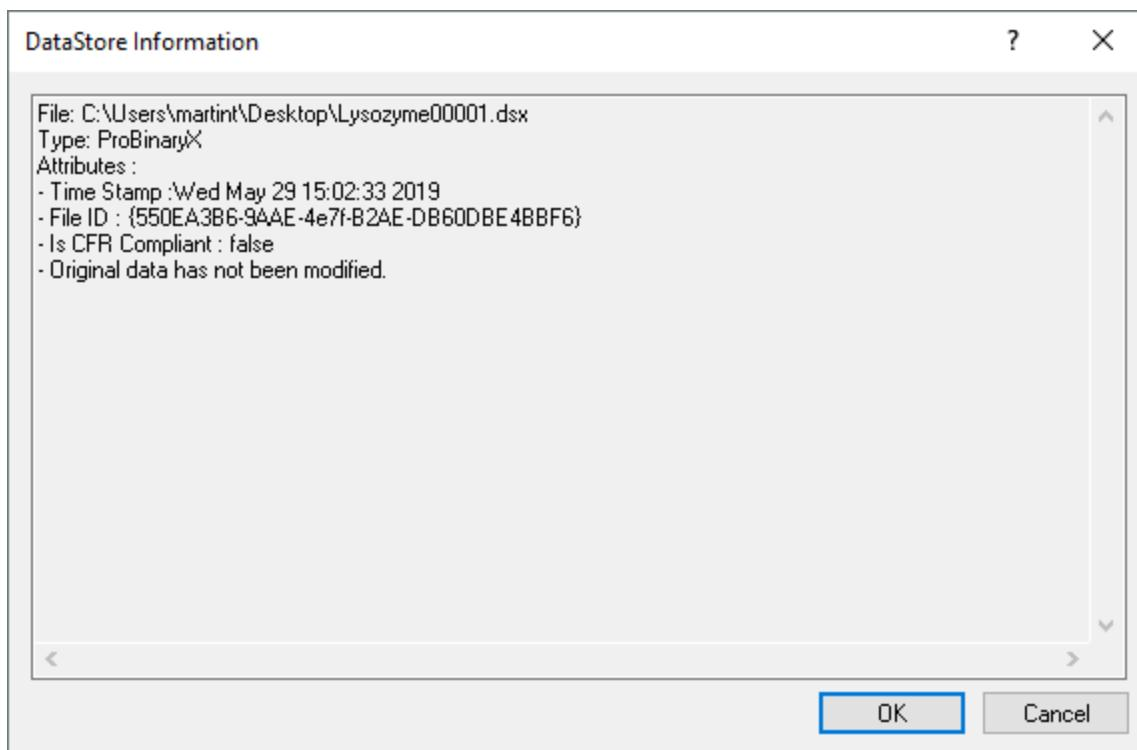

Figure 67: The DataStore Information dialog
- **Remarks...** opens the **Remarks and Comments** dialog (Figure 67) which shows information entered for reference by the user in the Remarks and Comments86 dialog in the SCP67, sample information provided by the user via the Sample and Cell Description dialog86 (sample description, concentration, cell type and path length) and supplement information that has been recorded automatically such as the instrument serial number.